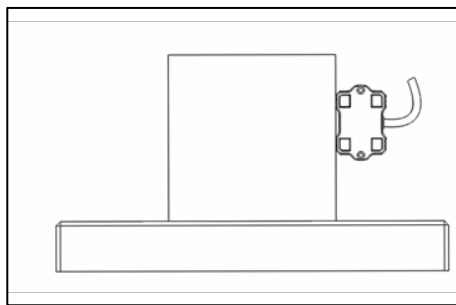

Figure 43. Tilt Sensor Module Position of Calibration Step 6
9. For **DWL5000XY** model, repeat step 6 to step 8 above until Calibration Step 8. Please locate the sensor module in following positions (refer to Figure 38 to Figure 43) respectively.